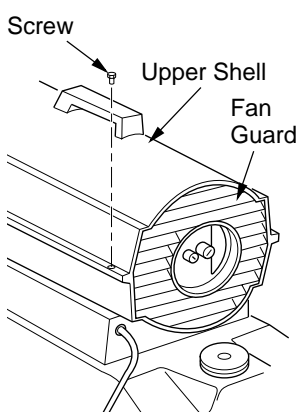

Figure 7 - Upper Shell Removal, 40/50/60/70 Models Only
1. Remove screws along each side of heater using 5/16" nut-driver. These screws attach upper and lower shells together. See Figure 7 or 8.
1. Remove upper shell (see Figure 7 or 8).